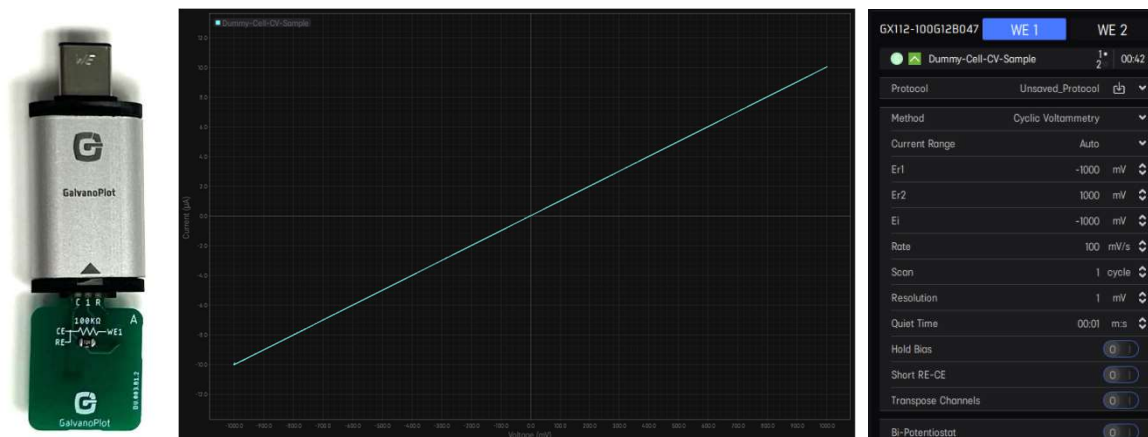

Figure 10. Cyclic Voltammetry Response of Dummy Cell Face A and Recommended Experiment Parameters
- In cyclic voltammetry, a straight diagonal passing from the zero point will be observed (Figure 10).